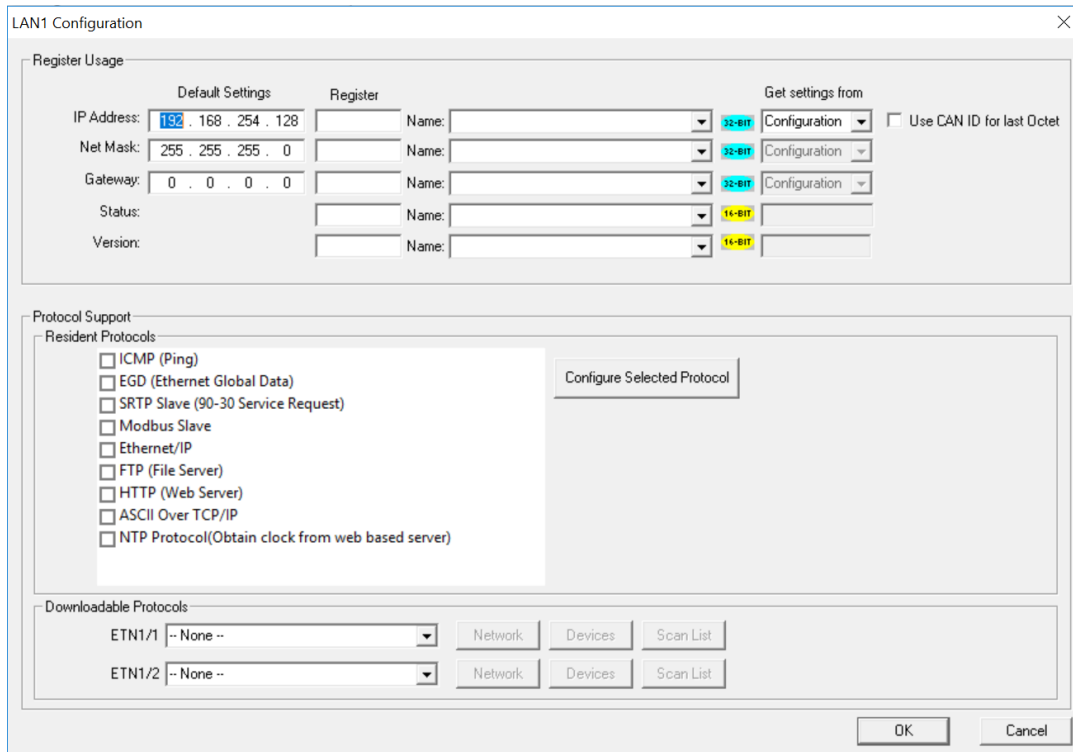

Figure 12.2 - Ethernet Module Configuration
3. Click the **Config** button to the right of LAN1 for LAN 1 or LAN2 for LAN2, revealing the Ethernet Module Configuration dialog as shown in Figure 12.2.